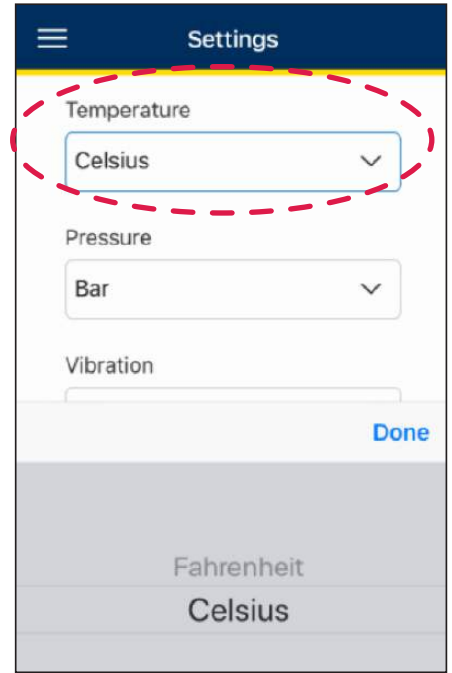

Figure 36
3. Use the drop down menu to select the preferred **Temperature, Pressure, and Vibration units** (see figures 36 – 39).